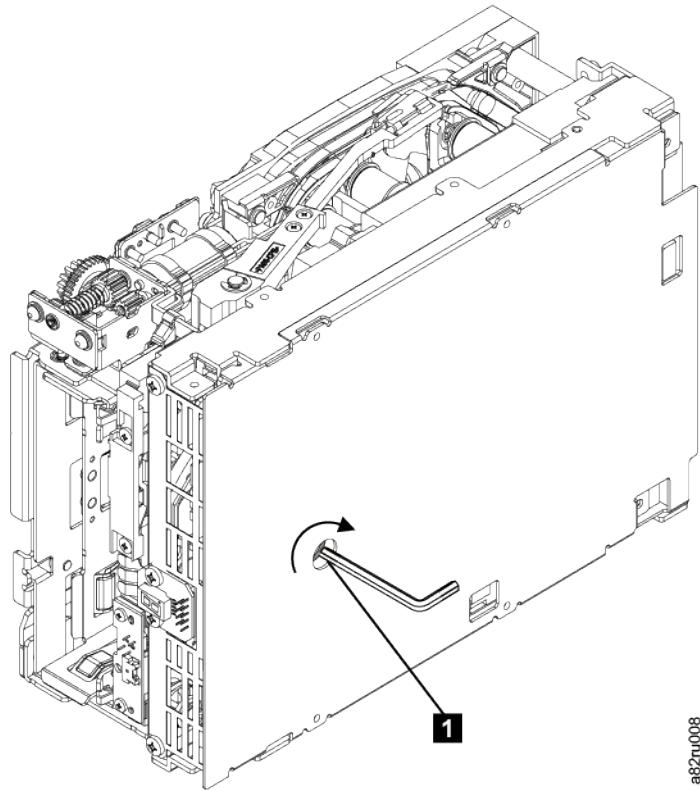

Figure 120. The hex wrench rewinds tape into cartridge
6. From the bottom of the drive, locate the access hole (1 in Figure 120 on page 245) in the bottom cover. Insert a 2.5 mm offset hex wrench through the bottom cover access hole and into the reel motor axle. Begin spooling tape back into the cartridge by turning the hex wrench clockwise.